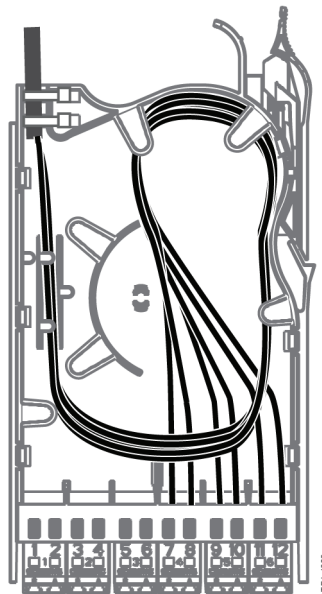

Figure 7
5.1.4 Beginning with adapter 12, mate six connectors into adapters 7 through 12 and route the fibres as shown in Figure 7.